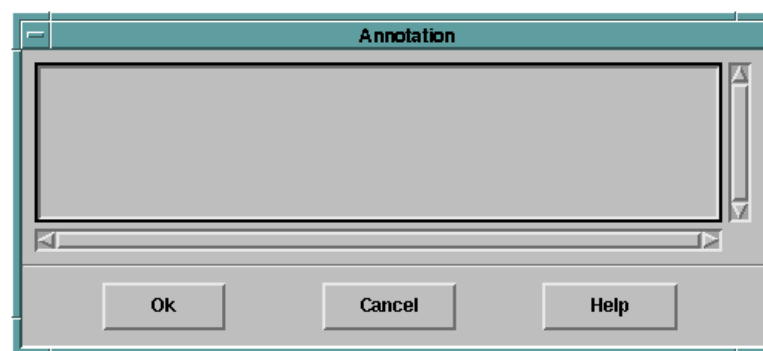

Figure 8.6.2.4-1. Annotation Dialog Box
2. Select **Annotate** under the Edit menu option from the Timeline's menu bar. The Annotation dialog box opens (see Figure 8.6.2.4-1). If the scheduled activity has already been annotated, its annotation opens in the Annotation dialog box.